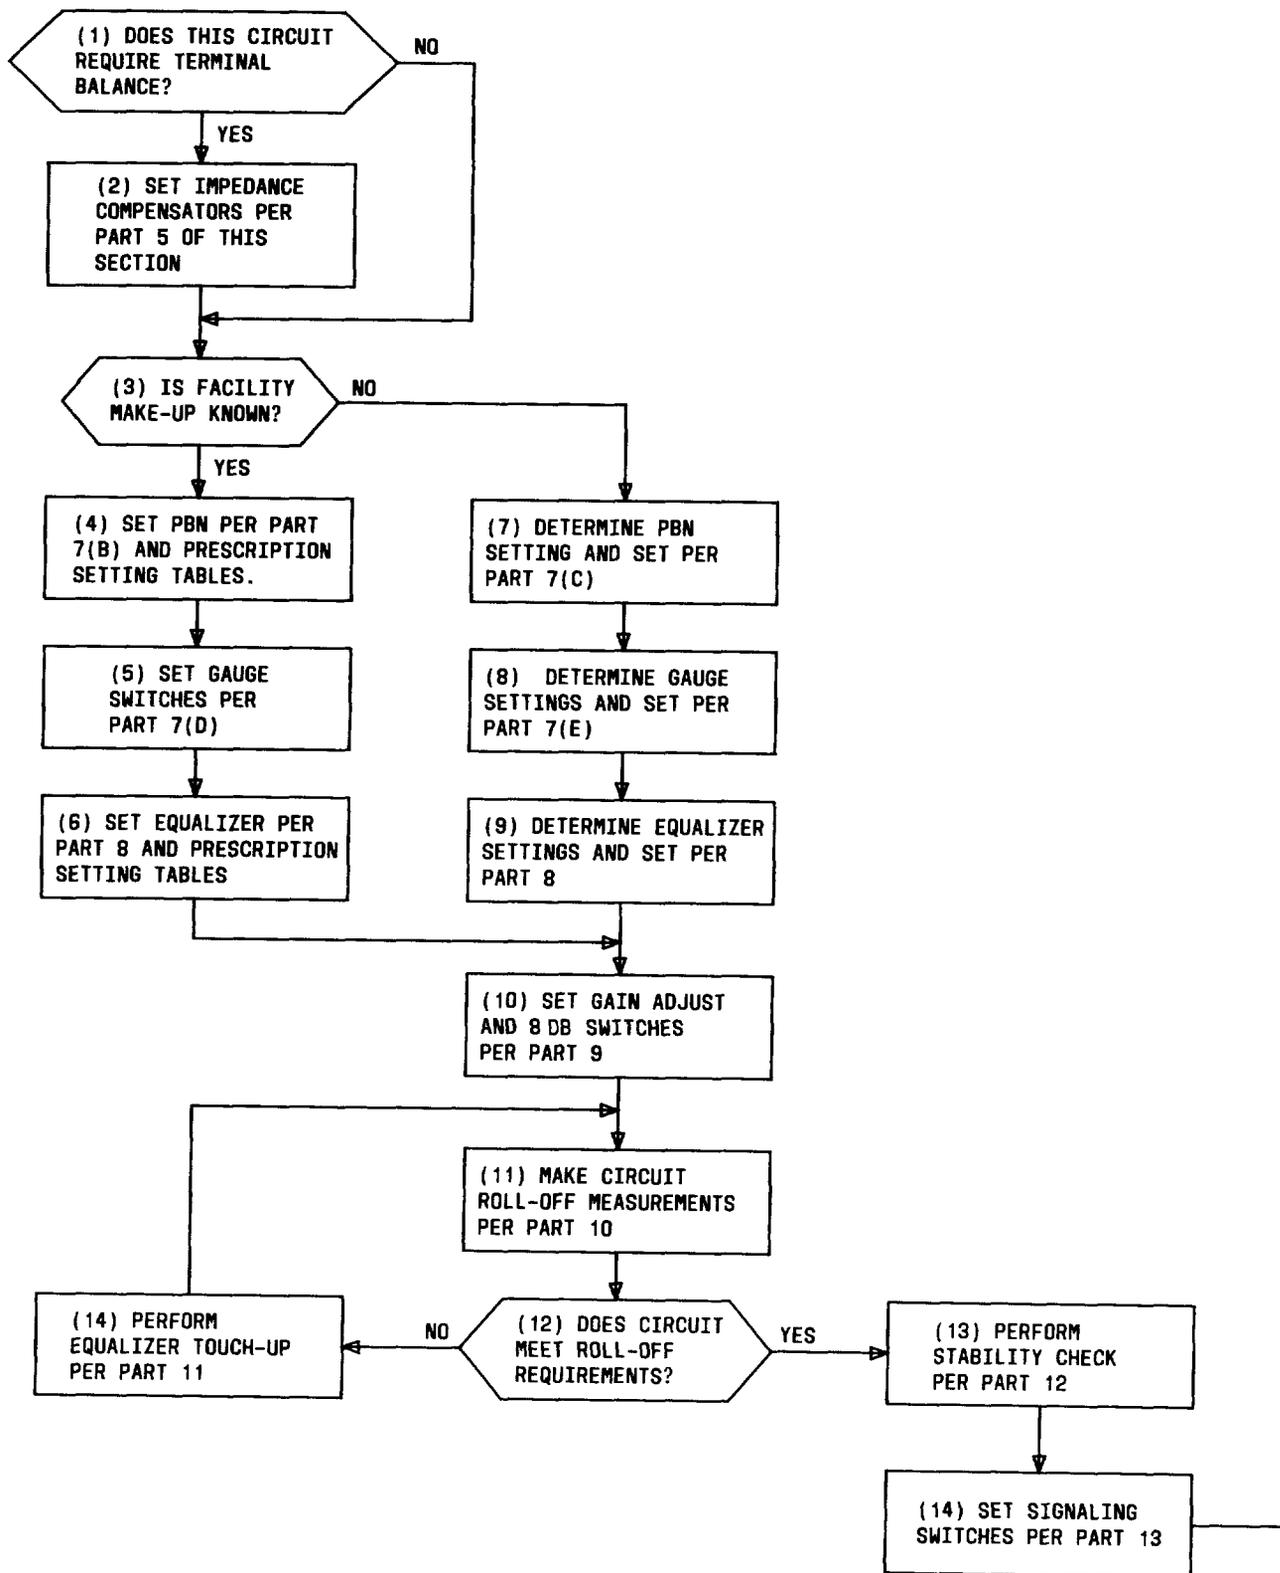

Fig. 4—Transmission Alignment Sequence Flowchart
4.01 Figure 4 provides a flowchart which presents the overall process for setting up the J99343GG, L1 & L2 and GK CFUs. This flowchart should be followed when using this practice to install these units. Parts 5 through 12 of this practice supplement Fig. 4 where additional information is required to perform the individual transmission tests while Part 13 gives similar information for setting the signaling section of the CFU.